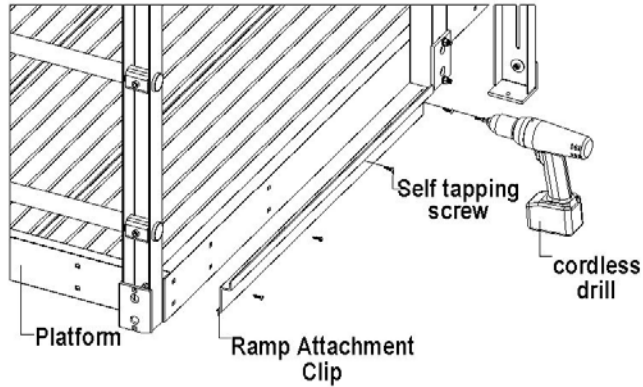

Fig.3.21
3.7 Ramp to Platform Attachment: When the opening sides of the platform have been determined, attach the ramp attachment bracket to the platform base using self-tapping screws, space the ramp attachment clip centered to the opening of the platform being used (**Fig.3.21**). Now it is time to assemble ramp sections, continue to **section 4**.